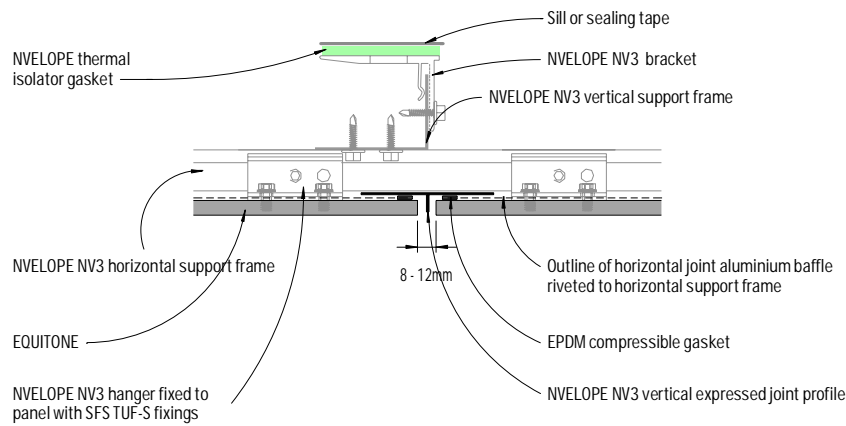
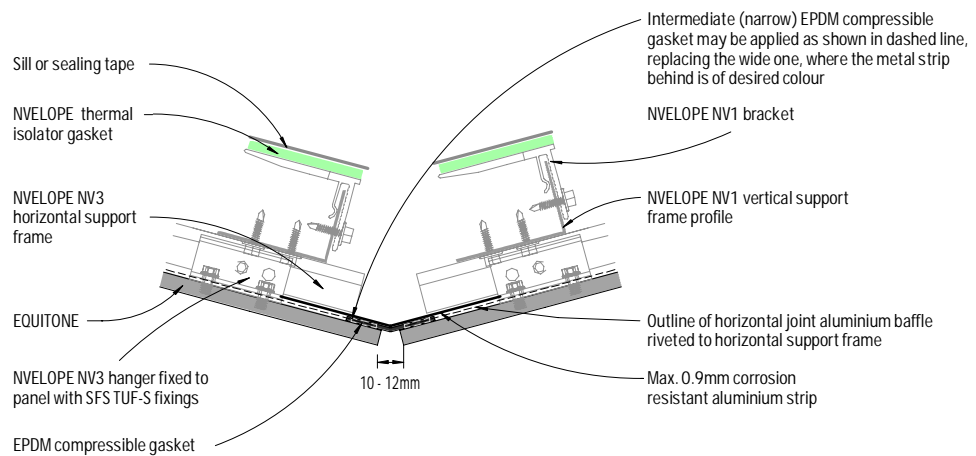

Figure 3: Vertical joint - Detail 1
Figure 4: Vertical joint - Detail 2
- 1) The deflection of NVELOPE NV3 vertical expressed joint profile (as included in Figure 3) and any aluminium strip located at the vertical joint (as included in Figure 4) shall be limited to an extent ensuring the seal along the vertical joint is maintained with respect to project wind loading.